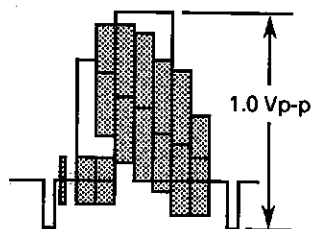

Figure 2-4.
9. Make sure that the amplitude of the playback colour bar signal is $1.0 \pm 0.04V_{p-p}$ as shown in Figure 2-4.